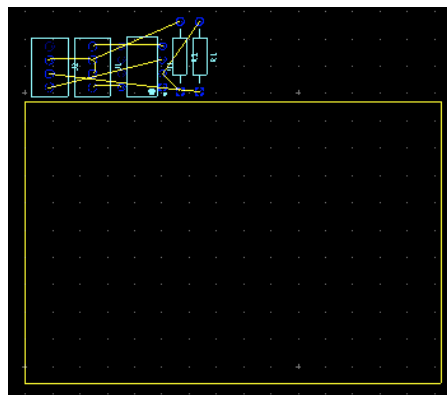

Figure 12. Default board outline and parts transferred from Multisim.
9. Click **OK** to accept all the actions listed in the **Import Netlist** window. Ultiboard will create a default board outline. Note that all the parts are placed outside of the board outline and the yellow lines (ratsnests) identifying the connections between pins, as shown in Figure 12.